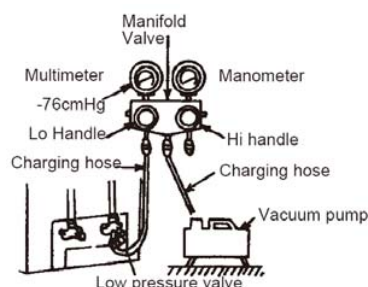

Fig.10
- (1) Connect charging hose of manifold valve to charge end of low pressure valve (both high/low pressure valves must be tightly shut).
- (2) Connect joint of charging hose to vacuum pump.
- (3) Fully open the handle of Lo manifold valve.
- (4) Open the vacuum pump for vacuumization. At the beginning, slightly loosen joint nut of low pressure valve to check if there is air coming inside. (If noise of vacuum pump has been changed, the reading of multimeter is 0) Then tighten the nut.
- (5) Keep vacuuming for more than 15mins and make sure the reading of multi-meter is -1.0×10^5 pa (-76cmHg).
- (6) Fully open high/low pressure valves.
- (7) Remove charging hose from charging end of low pressure valve.
- (8) Tighten lid of low pressure valve. (As shown in Fig.10)